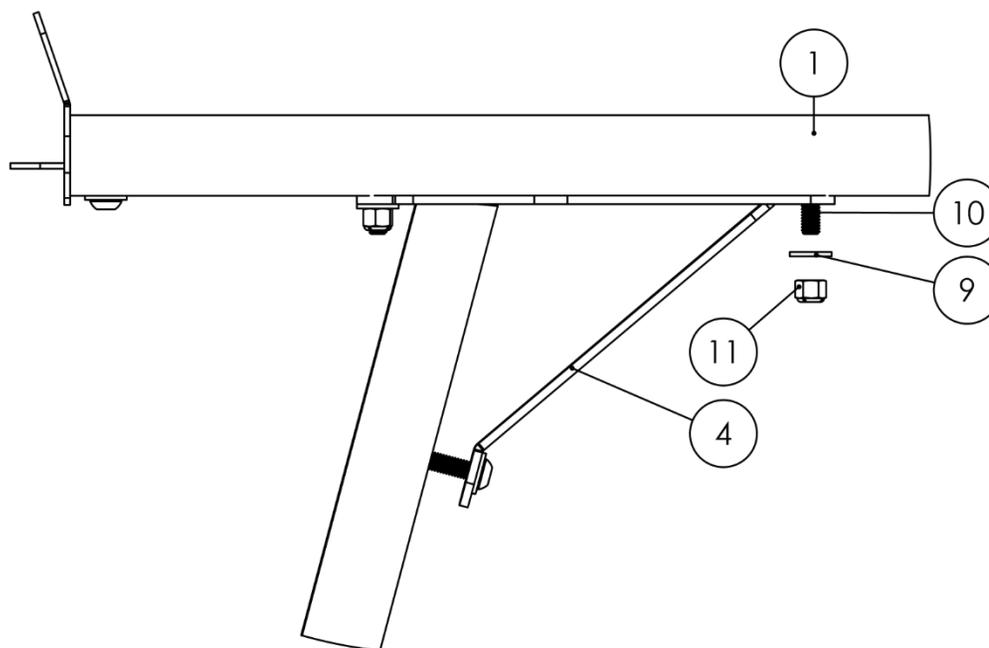

Figure 11
7. **Install the Crossbars onto the Legs.** To install a Crossbar (Item No. 1), hold it above the Legs (Item No. 5) so that the ends of the Carriage Bolts (Item No. 10) hang down and align with the holes on the Crossbar Gusset Assembly (Item No. 4). Using a Metal Washer (Item No. 9) and a Nylon Lock Nut (Item No. 11) secure each Leg and Crossbar. Figure 11 shows the bolt assembly as it is required.